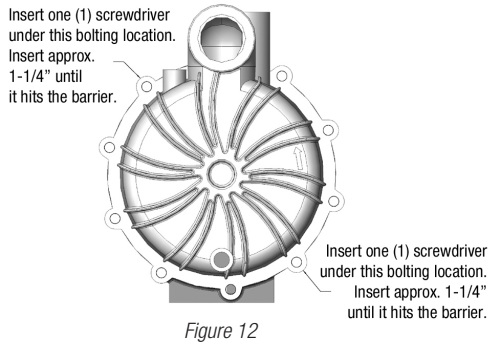

Figure 12
Remove the housing (item 1) by carefully inserting two flat head screwdrivers at the locations shown in Figure 12. Slide the screwdrivers in at the bolt holes between the metal motor adapter and the housing until they stop.